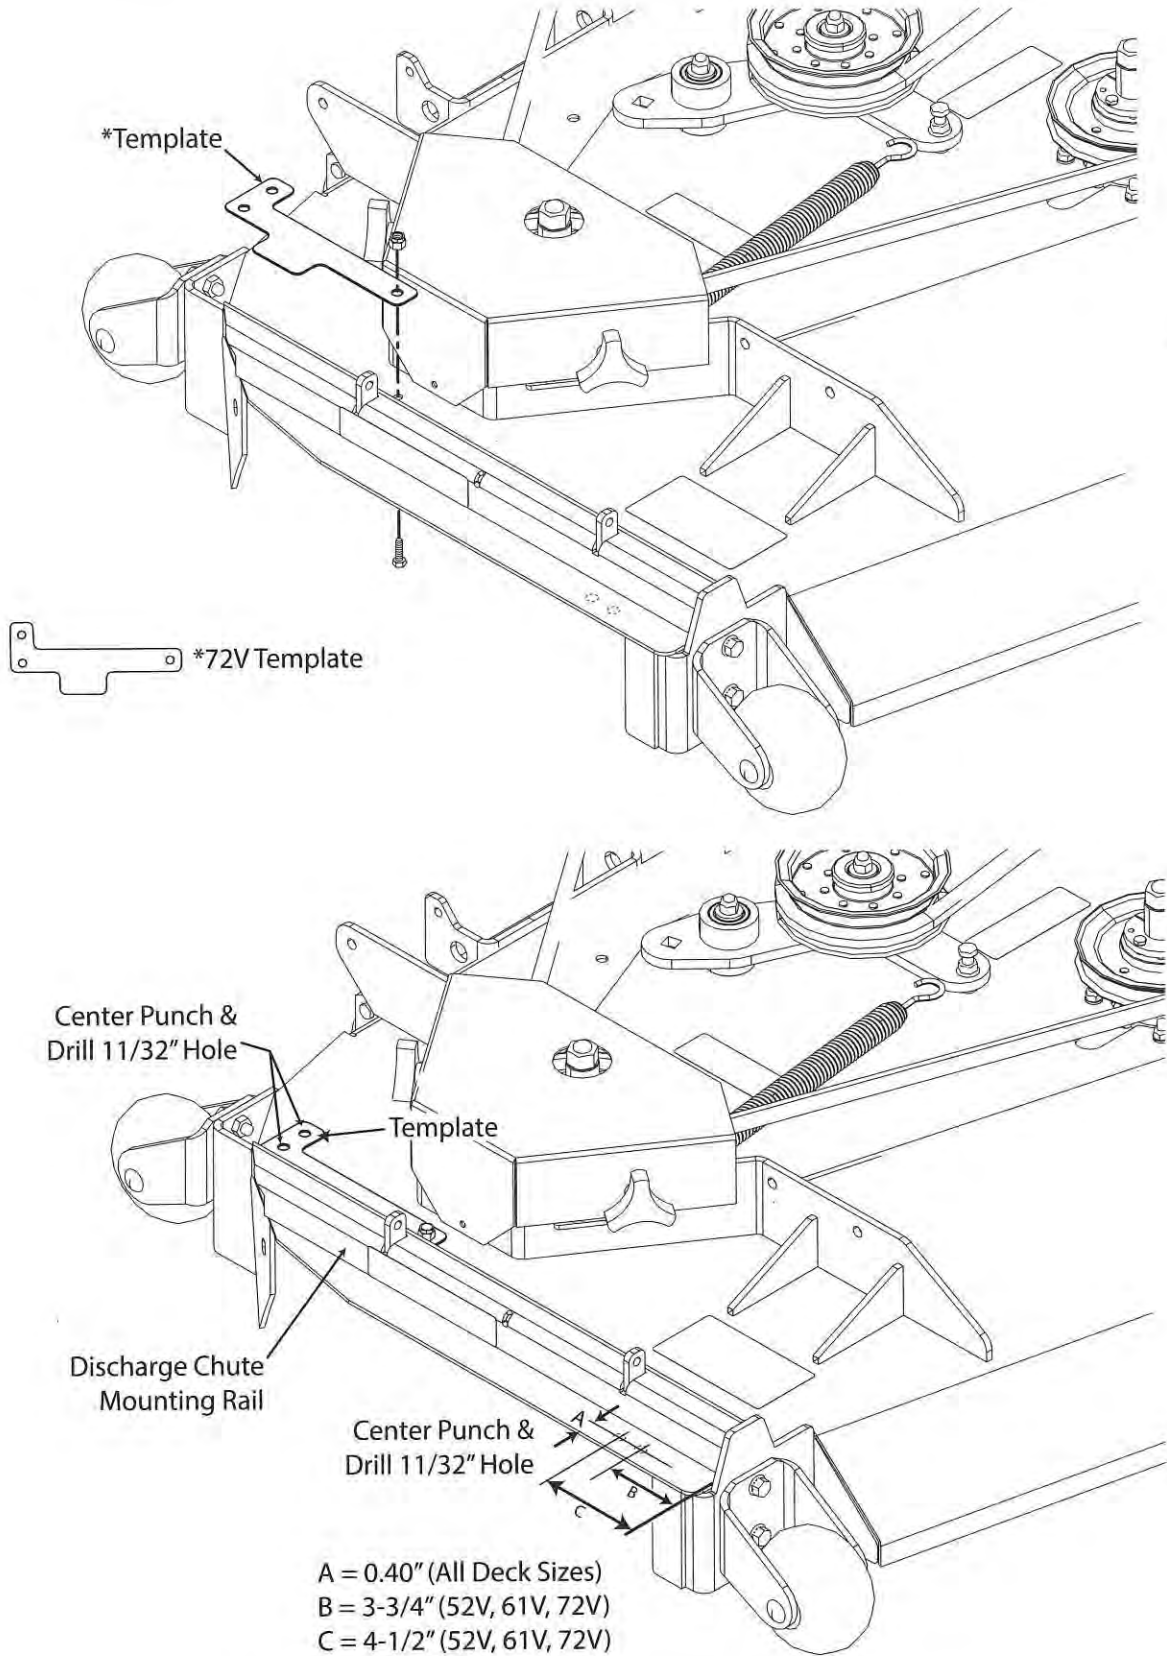

Figure 3-18. Locating and Drilling the Mounting Holes for STTII/SCZII -72V
8. Install one (1) 5/16-18 x 3/4" bolt and one (1) 5/16-18 elastic stop nut. Do not tighten the hardware.
9. Install the template to locate the mounting hole for the pivot assembly. Secure the template to the cutter deck using the turbo baffle mounting hardware removed in step 5. See Figure 3-18, Page 13.
10. Hold the template against the discharge chute mounting rail and tighten the hardware. See Figure 3-18, Page 13.
11. Using the template as a guide, center punch and drill two mounting holes using an 11/32" drill bit. See Figure 3-18, Page 13.
13. Carefully lay out the remaining mounting holes for the front hinge bracket in the cutter deck. See Figure 3-18 Page 13.
15. Install the front hinge bracket to the cutter deck using two (2) 5/16-18 x 3/4" bolts and two (2) 5/16-18 elastic stop nuts. See Figure 3-18. Do not tighten the hardware.